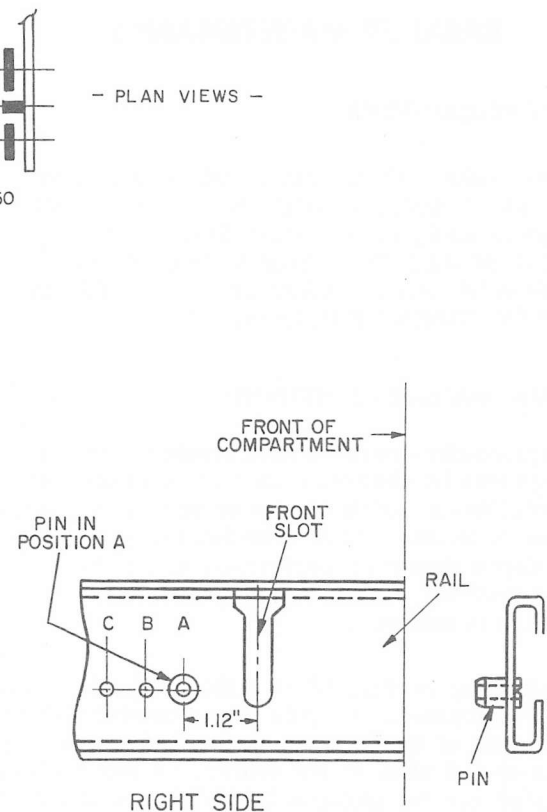
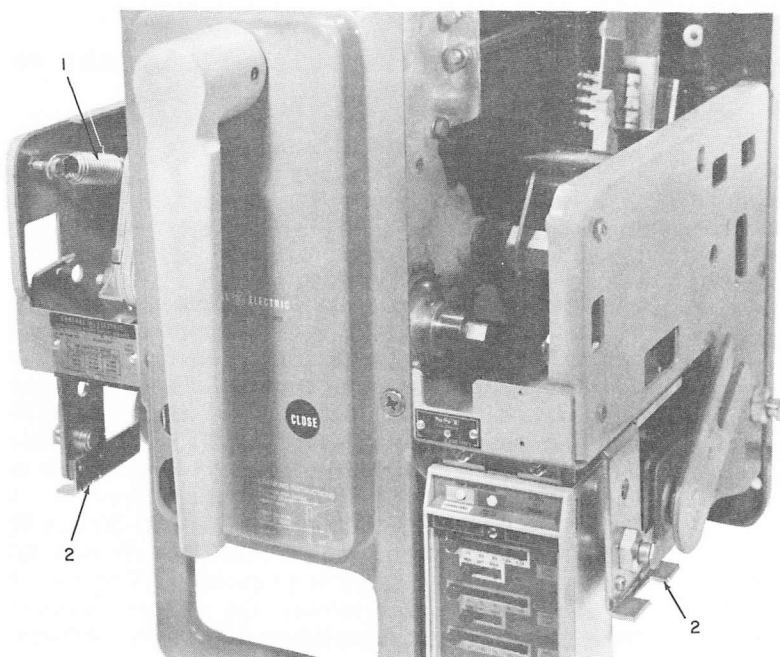

Fig. 3. Slide rail rejection pin locations
Fig. 4. AKR-5A-30 breaker
- c. Two additional opening springs, one at each end of the main shaft. See Fig. 4.
In general, drawout breakers of the same type and rating are interchangeable in their equipment compartments; drawout breakers of different frame sizes are not interchangeable. To prevent inserting the wrong type breaker into a drawout compartment, suitable "rejection hardware" is affixed to each breaker and its compartment. Figure 4 shows a typical rejection bracket which aligns with a rejection pin in the drawout rail (Fig. 3). When the wrong type breaker is inserted into a compartment the bracket and pin do not mate, preventing the breaker from seating itself into the drawout rails.